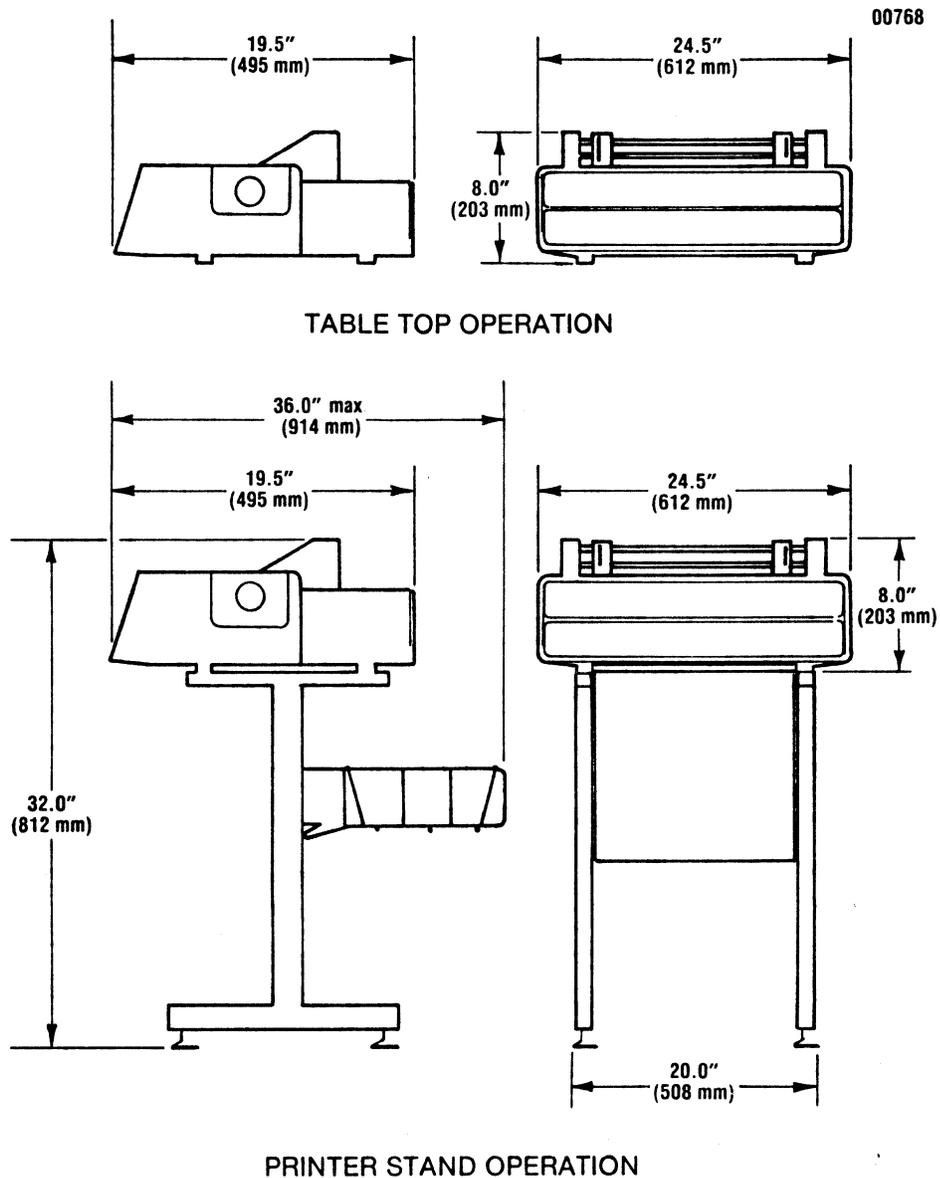

Figure 2-1 Printer Dimensions
**PRINTER DIMENSIONS**—Refer to Figure 2-1.